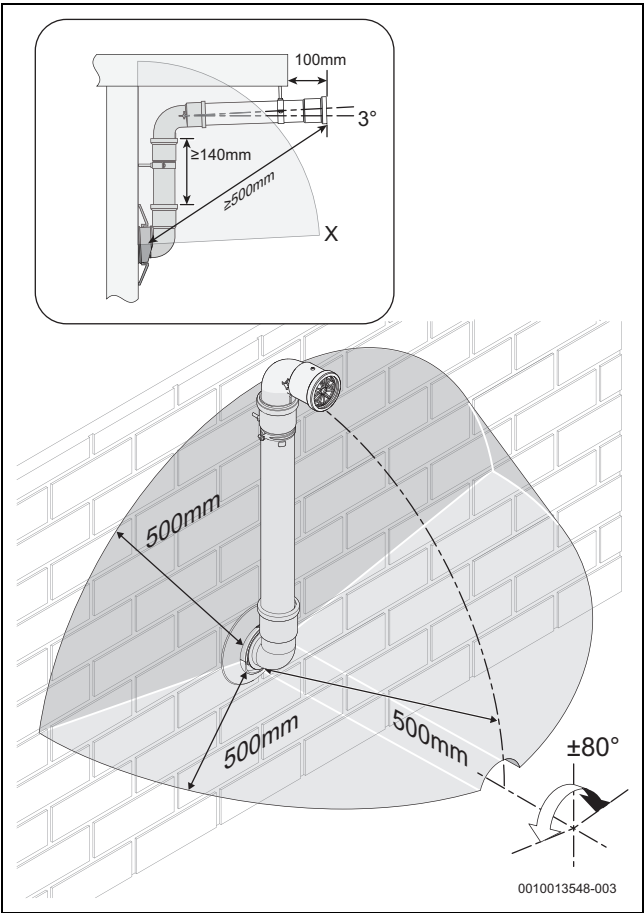

Fig. 31 Terminal exclusion zone
- Do not terminate the plume management inside the terminal exclusion zone (shaded area) shown in figure 31.